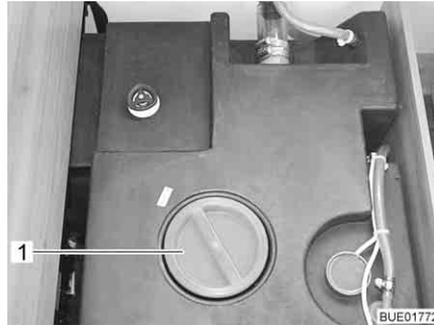

Fig. 266 Water tank with handle
- Remove the cap (Fig. 266,1) of the water tank.